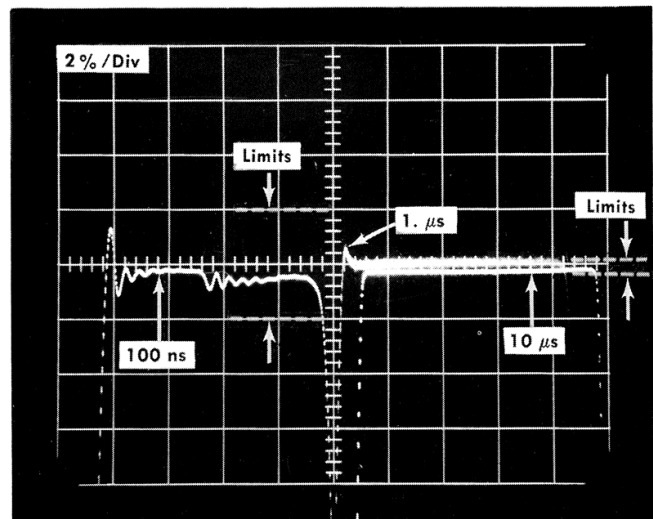

Fig. 6-8. Typical display showing Amplitude checks at 3 time periods (triple exposure).
o. Change the PERIOD switch on the Type 284 to 100 ns, and change the Equivalent Time/cm on the Type 5T3 to 10 ns/cm. Observe the upper portion of the displayed square wave to be within 20 mV after the first 20 ns. See Fig. 6-8.